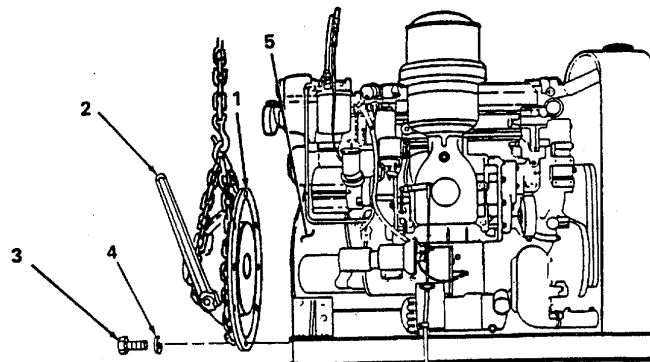

Figure 5-10. PTO/Clutch Removal.
- (a) Position portable hoist to support PTO/clutch assembly (1 figure 5-10) during removal and operate hand lever (2) to engage clutch to hold facings in place.
- (b) Remove 10 screws (3) and 10 lockwashers (4) and separate PTO/clutch assembly (2) from engine flywheel housing (5).